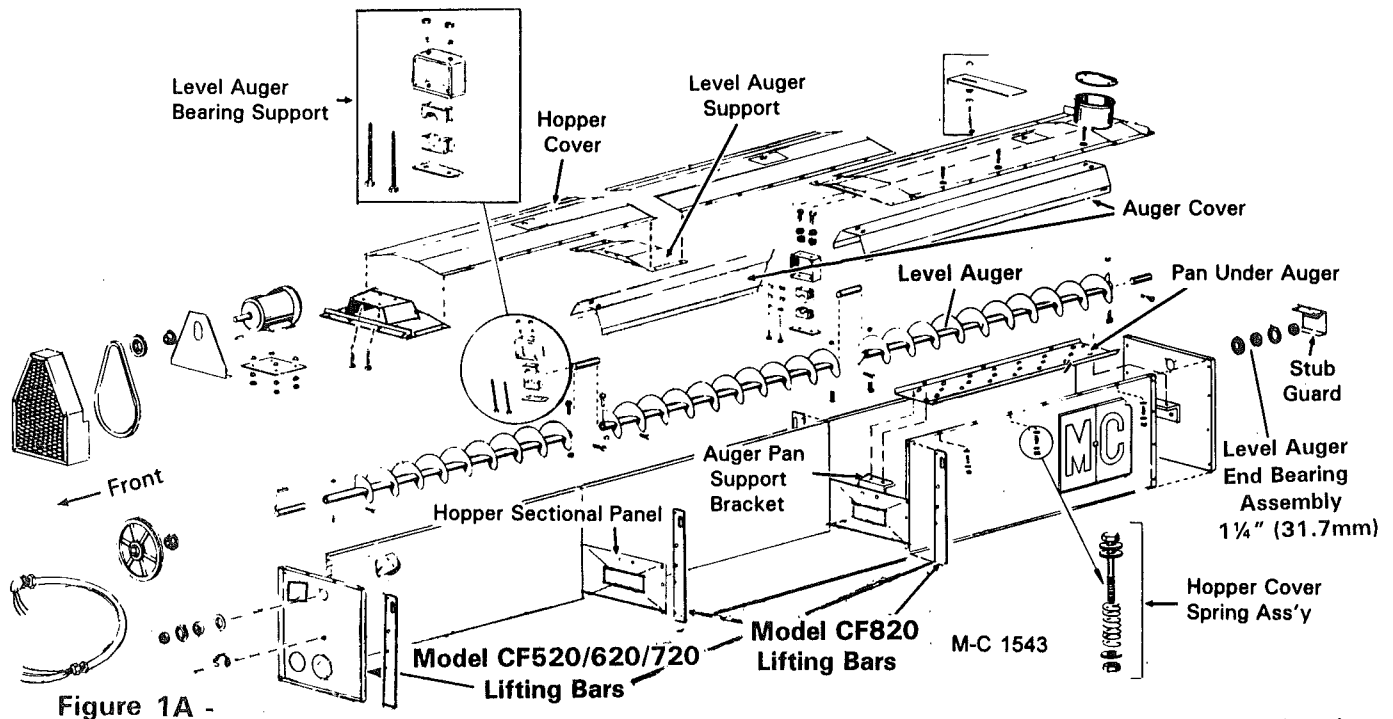

Figure 1A -
Hopper and Level Auger (See Figure 1A)
12. Install the hopper covers. The front cover on all models is 76" (193cm) long. The rear hopper cover on models 520, 620, 720, & 820 is also 76" (193cm) long. The rear hopper cover on models CF410, 420, & 730 is only 34½" (88cm) long. The center hopper cover on models CF730 and CF820 is 83" (211cm) long. Secure each cover to the left side of the hopper side panel with (4) ¼-2 x 2" (7.35 x 51mm) capscrews, flatwashers, springs and two-way locknuts as shown in Figure 1A.